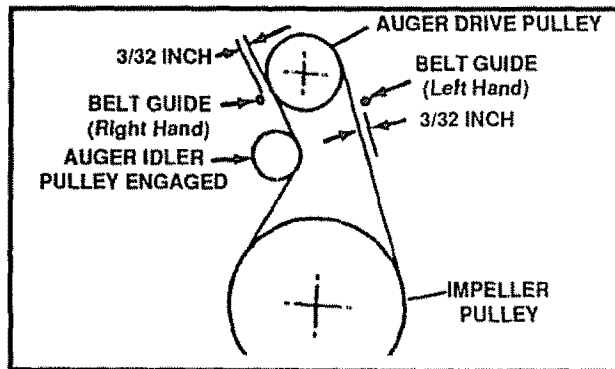

FIG. 29
- Measure the distance between the belt guides and the belt (See Fig. 29). The distance should be  $3/32$ " for each guide.